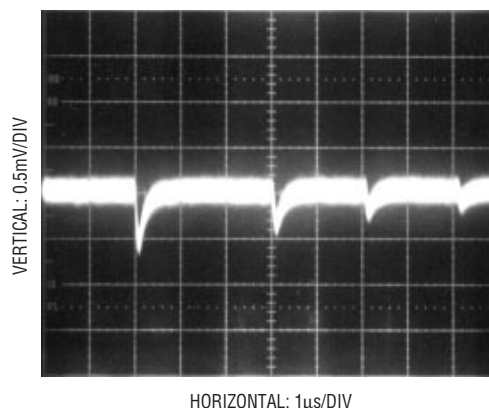

Figure 15. Adequate Reference Settling
1. Transients on the reference inputs caused by the capacitive switching currents must settle completely during each bit test (each 4 ACLK cycles). Figures 15 and 16 show examples of both adequate and poor settling. Using a slower ACLK will allow more time for the reference to settle. However, even at the maximum ACLK rate of 4MHz most references and op amps can be made to settle within the 1μs bit time. For example the LT1236 will settle adequately.